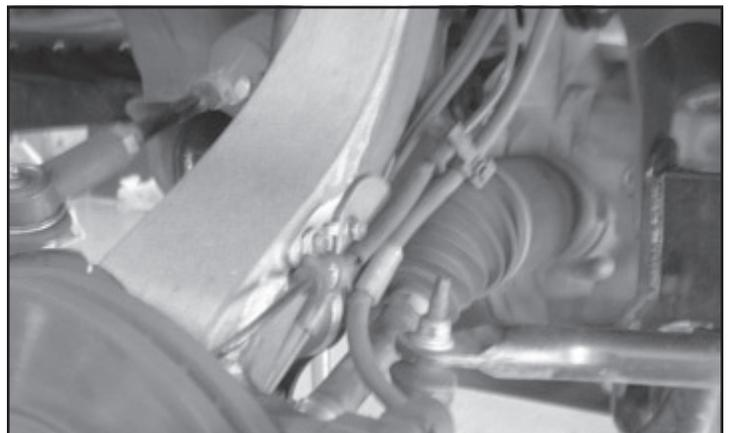

**FIGURE 46 - STEP 40**
40. Install the wheel speed sensor. Make sure the end of the sensor is clean. **SEE FIGURE 46**